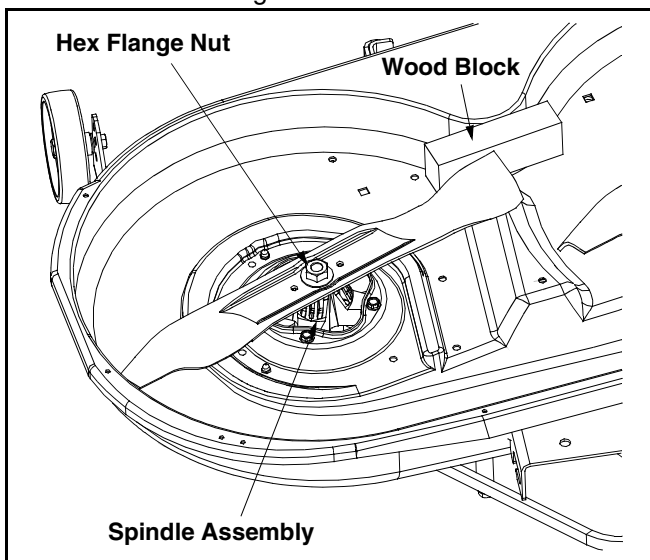

Figure 19
- Place a block of wood between the center deck housing baffle and the cutting blade to act as a stabilizer. See Figure 19.
- Use a 15/16" wrench to remove the hex flange nut that secures the blade to the spindle assembly. See Figure 19.